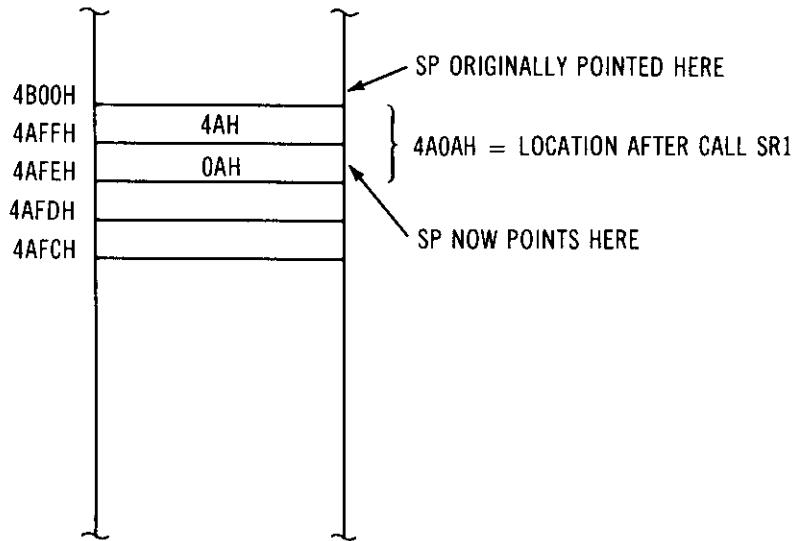

Fig. 6-3. Stack area Example 1.
When a CALL is executed, the address of the next instruction is stored in the stack with the most significant byte of the location stored in (SP)-1 and the least significant byte stored in (SP)-2. Let us illustrate this with a program. Key in the following code, set a breakpoint at LOOP, and then examine the stack area at 4AFFH down. You should see data as shown in Figure 6-3.